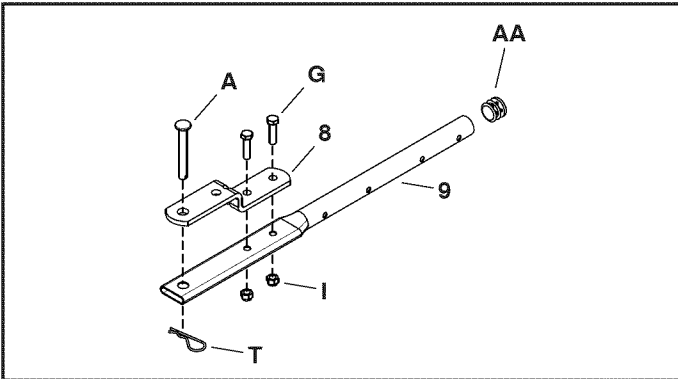

FIGURE 1
STEP 1: (SEE FIGURE 1)
- Insert a plug (AA) into the end of the hitch tube (9).
- Attach the hitch bracket (8) to the hitch tube using two 5/16" x 1-1/4" hex bolts (G) and 5/16" nylock nuts (I).
- Install the hitch pin (A) in the hitch bracket and hitch tube and secure it with the hairpin cotter (T).